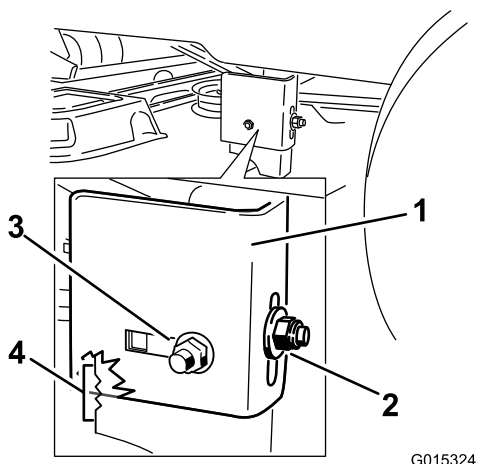

Figure 54
8. Loosen the rear locking nut on the hanger bracket just enough to move the bracket (Figure 54).
10. Stop the deck at the adjusted position and tighten the rear locking nut on the hanger bracket to hold the new position (Figure 54). Tighten the side locking nut on the hanger bracket.